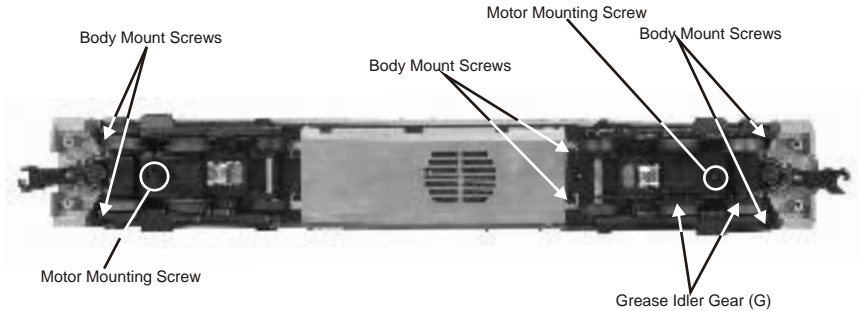

Figure 5. Body Removal Screw Locations
1. To access the gear box, remove the cab from the chassis by unscrewing the body mount screws as seen in Figure 5 and lifting the cab from the chassis.
2. Once the cab is removed, remove the trucks by unscrewing the black Phillips motor mount screw located on the underside of the drive trucks (see Fig. 5).